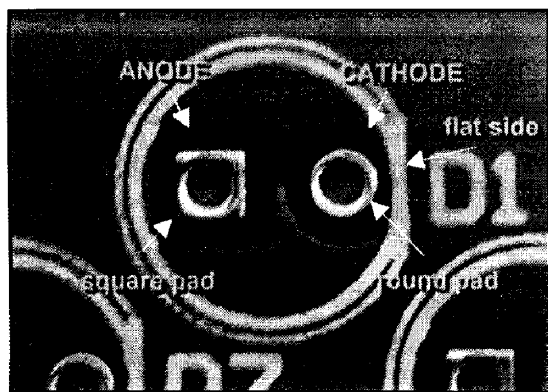
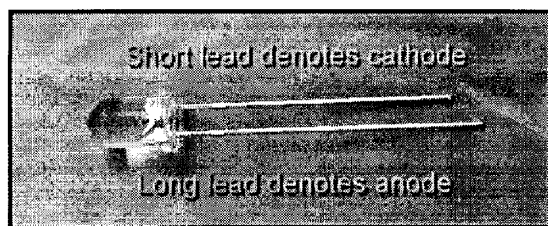

Figure 2. LED part outline on PCB
Figure 3. LED leads
The LEDs must be installed with the correct polarity (i.e., the correct direction or orientation) to work properly. There are two (2) visual indicators to help you determine the proper orientation of each LED. The LED has a flat side on the base of the plastic body that indicates the cathode, or negative terminal (see Figure 2). This flat side corresponds to the LED part outline on the PCB (see Figure 3). The cathode goes into the hole with the round pad on the PCB. The anode or positive terminal of the LED is slightly longer than the cathode (see Figure 4). The anode goes into the hole with the square pad on the PCB. All the LEDs on the IR Spotlight are oriented in the same direction.